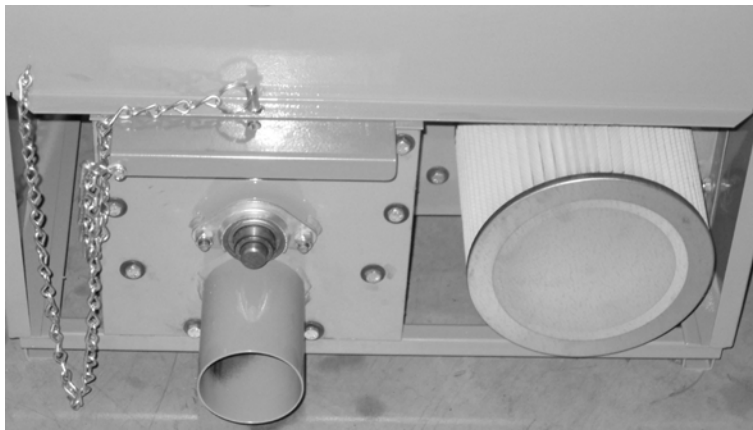

Figure 7
- Attach 2.5" x 50' hose to the Airlock Exhaust Pipe (Figure 7, left) using a hose clamp. Attach additional hose as required using the appropriate connectors / reducers using hose clamps.